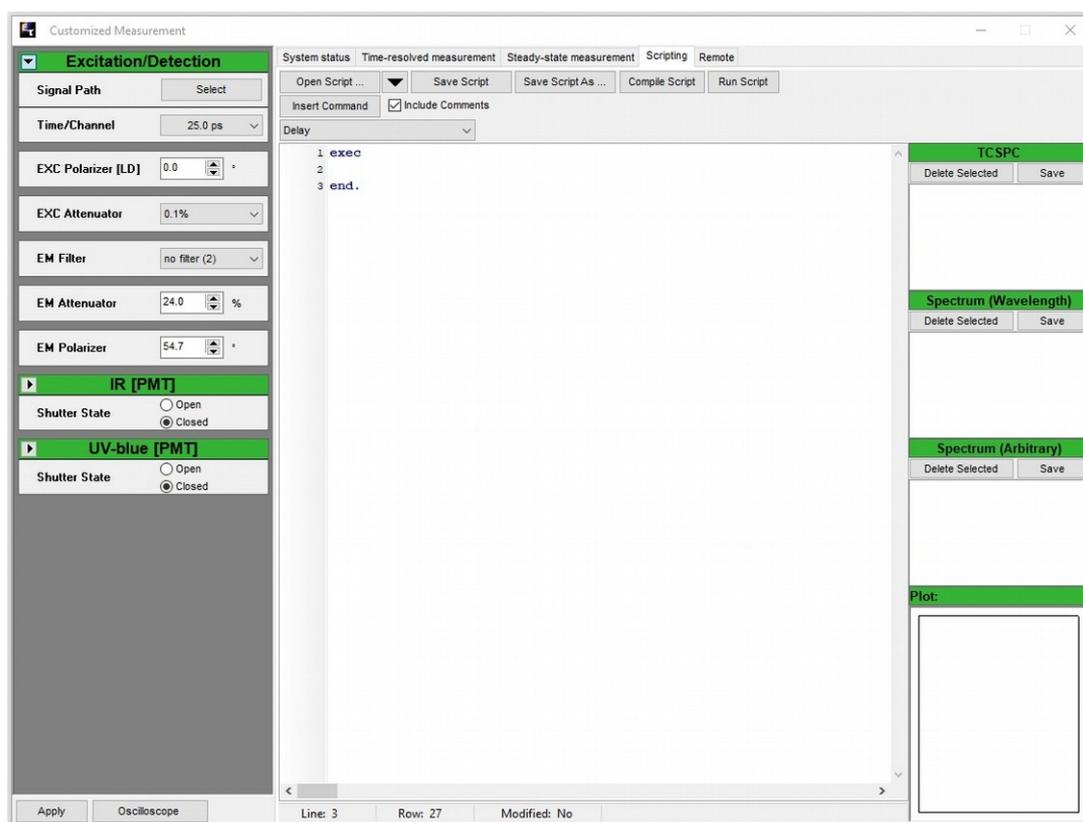

Fig. 37: Measurement in scripting mode.
- Select “Scripting” measurement mode (Fig. 37)